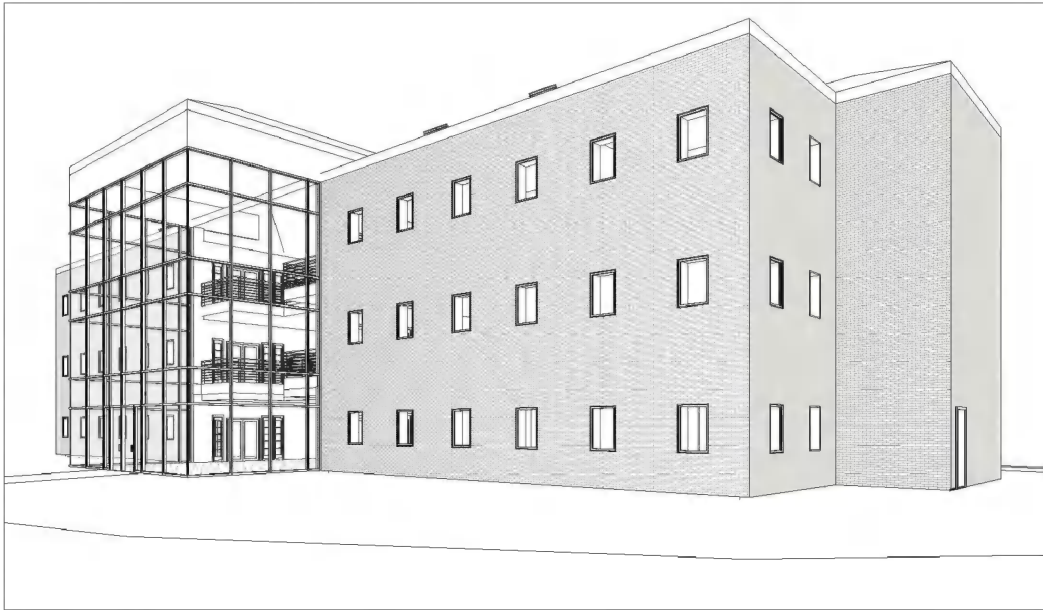

FIGURE 13-2.4 Revised camera – 3D View 1
8. Now switch to *3D View 1* and adjust the **Crop Region** to look similar to **Figure 13-2.4**. Also, uncheck **Far Clip Active** in the *Properties Palette*.